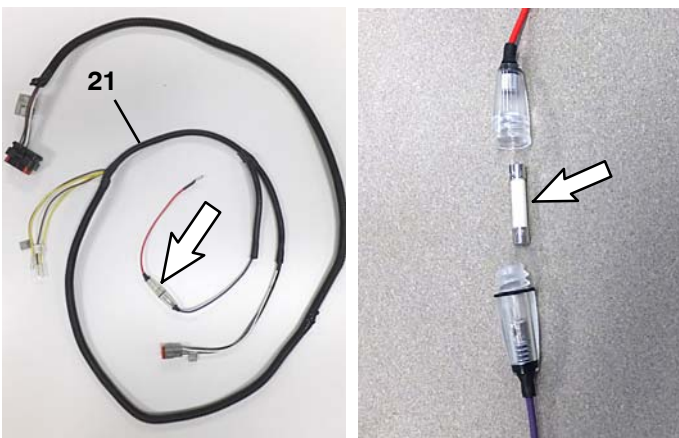

FIG. 4
4. **IMPORTANT:** To prevent possible damage to telemetry system during install, remove the in-line fuse from the telemetry harness (21) (FIG. 4)